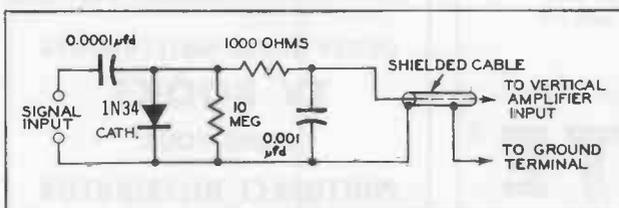
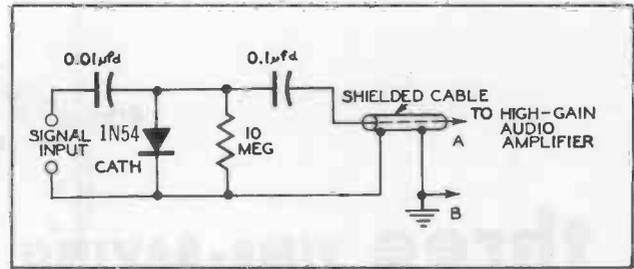

Figure 6. Detector Probe.
Figure 7. Signal Tracer Probe.
2. Demodulator Probe. A demodulator probe is required when the oscilloscope is used for visual alignment of individual IF stages, in a TV receiver or for the observation of the signal in any stage preceding the video detector. A crystal-type demodulator probe circuit is shown in Figure 6. The components may be attached to a small bakelite board, and the probe input leads soldered temporarily to the circuit under test. In this way, long connecting leads and the necessity for handling the probe are eliminated. No shield-can will be required.
The circuit of an efficient signal tracing probe is shown in Figure 7. This arrangement is similar to Figure 6, except that the rectified DC component is not used in this instance. Instead, the audio component resulting from the demodulation process is extracted by the 0.1 mfd. capacitor and presented by the amplifier portion of the signal tracer. For increased demodulation efficiency, a type 1N54 high back-resistance germanium diode is used.